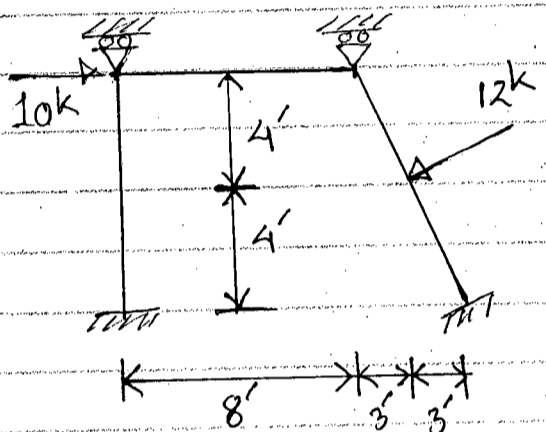

Fig. 9
(b) Calculate deformations of the free degrees of freedom of the frame shown in Fig. 9. Use the Stiffness Method. Ignore axial deformation of the beam only. Given:  $A = 10 \text{ in}^2$ ,  $I = 1000 \text{ in}^4$ ,  $E = 3000 \text{ ksi}$  for all the members. (25)